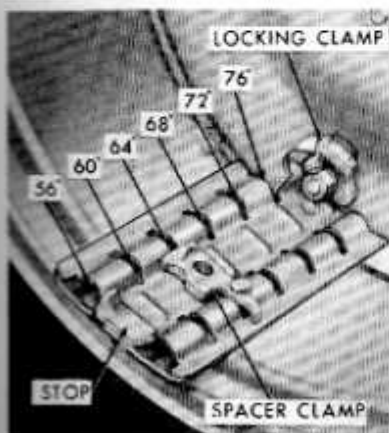
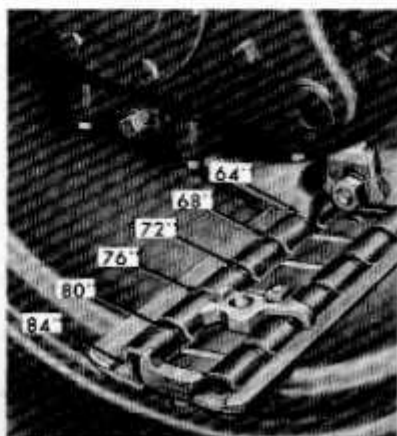

Figure 21
Figure 22
**LOOSENING TIRE RIM FROM DISC:** Loosen the nuts on the three locking clamps (see Figure 21), slide the clamps toward the center or retracted position, then retighten the nuts securely. Move the tractor until the wheel tread spacer clamp (Figure 21) is at the top of the wheel, then remove the spacer clamp from the disc and remove the large nut.
Next, place the spacer clamp in the channel thread bar which has stops at each end. Position the clamp for desired tread width and secure as shown in Figure 21. These settings will permit a full revolution, or adjustment of 2 inches for the wheel.
**CHANGING WHEEL DISCS:** To obtain a tread width setting of 80 inches, it is only necessary to power-adjust the wheels to a normal 60" setting (see Figure 21), then reverse the wheels on the tractor. The 84" setting is obtained in the same manner by setting the wheels at 56" and reversing them on the tractor. With the wheels in the reversed (dish in) position, it will be necessary to set the spacer clamp and locking clamps from the inside of each wheel when making adjustments. See Figure 22. Disengage the spacer and the locking clamps, move the wheel to its extreme "in" position and set the spacer clamp as desired. Then, use the tractor power to adjust the wheels to the desired width. After adjusting, replace the spacer clamp and locking clamps and tighten securely.